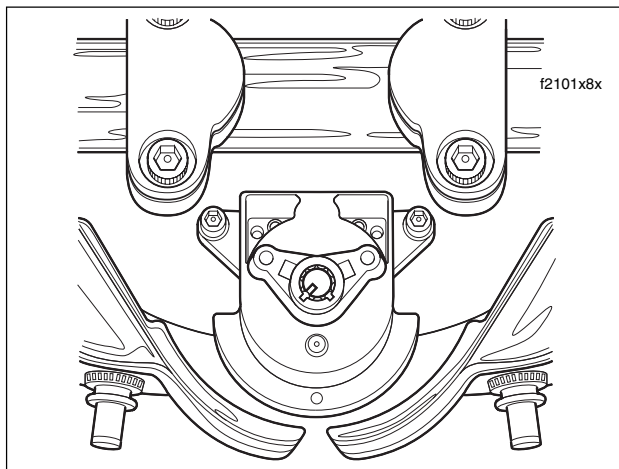

Figure 8-73. Fork Lock (FLHR/C/S)
3. Remove two allen head socket screws (with flat washers) and pull fork lock assembly from upper fork bracket bore. See Figure 8-73.
1. Install **new** fork lock assembly into bore of upper fork bracket. See Figure 8-73.